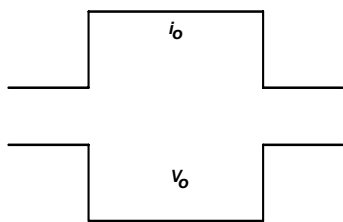
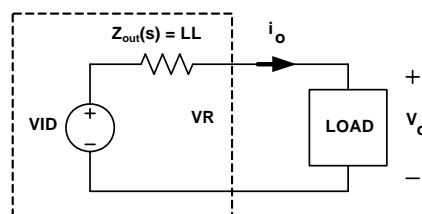

FIGURE 18. DESIRED LOAD TRANSIENT RESPONSE WAVEFORMS
FIGURE 24. VOLTAGE REGULATOR EQUIVALENT CIRCUIT
Assuming the compensator design is correct, Figure 18 shows the expected load transient response waveforms if C_n is correctly selected. When the load current I_{core} has a square change, the output voltage V_{core} also has a square response.
Figure 18 shows the desired load transient response waveforms. Figure 24 shows the equivalent circuit of a voltage regulator (VR) with the droop function. A VR is equivalent to a voltage source (= VID) and output impedance $Z_{\text{out}}(s)$. If $Z_{\text{out}}(s)$ is equal to the load line slope LL , i.e., constant output impedance, in the entire frequency range, V_o will have square response when I_o has a square change.